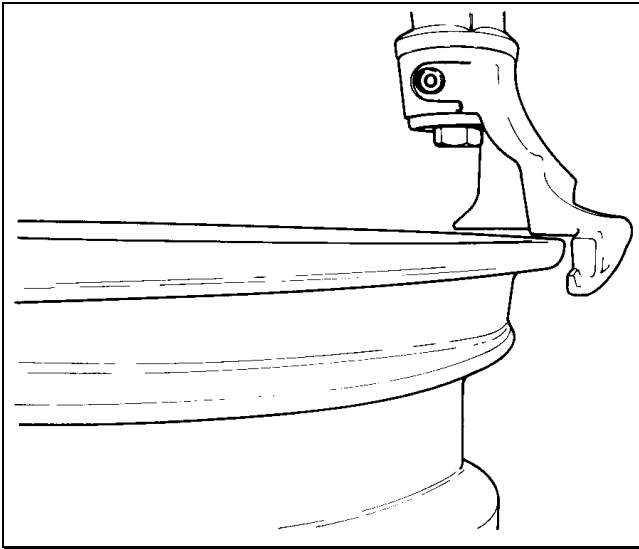

Fig. 14
**E.** Position the mount/demount head in contact with rim edge and lock it into place: the tool automatically moves away from the rim edge vertically. Turn the adjustment knob until the mount/demount head clears from the rim flange about 1/16" (2mm): this is necessary to avoid any rim damage (Fig. 14).